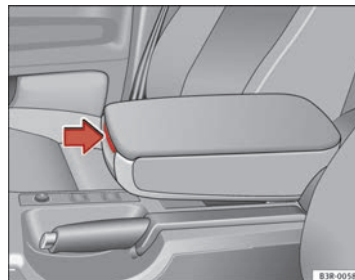

Fig. 114 Armrest between the driver seat and front passenger seat
- Press the release lever ⇒ fig. 114.